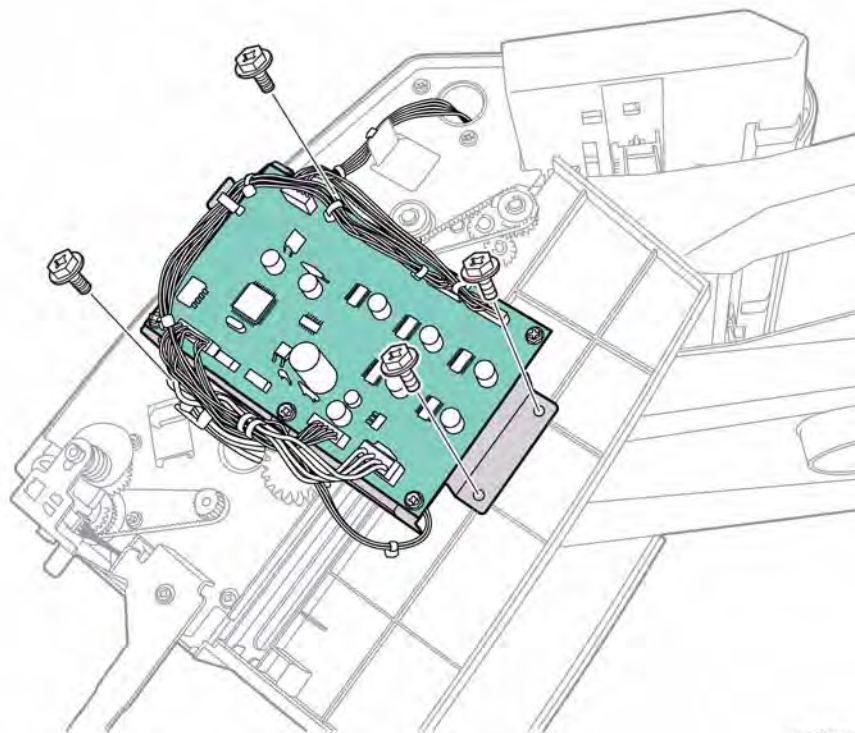

Figure 1 Remove the Control Board bracket screw,
3. Remove 4 screws (2 metal, 2 plastic) that secure the Control Board bracket to the Finisher, Figure 1.